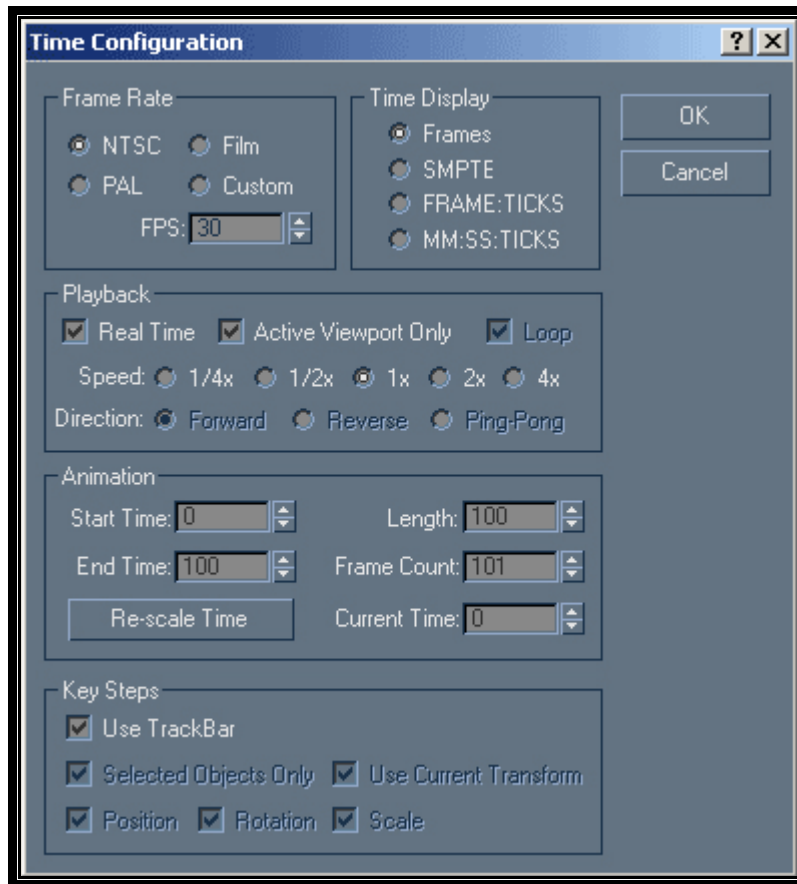
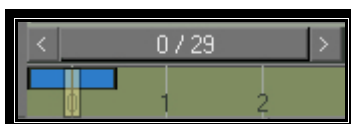

Figure 8 Time configuration menu
Figure 13 Zero key
Once you have the window shown in figure 8 open we need to change the Animation start and end time.
This will set a base key or zero key as shown in Figure 13 which is the starting point of the animation. We now need to move the animation to key 29. Select the bar between the arrow keys and drag the bar to key 29. Make sure you have the move tool selected as shown in figure 8.